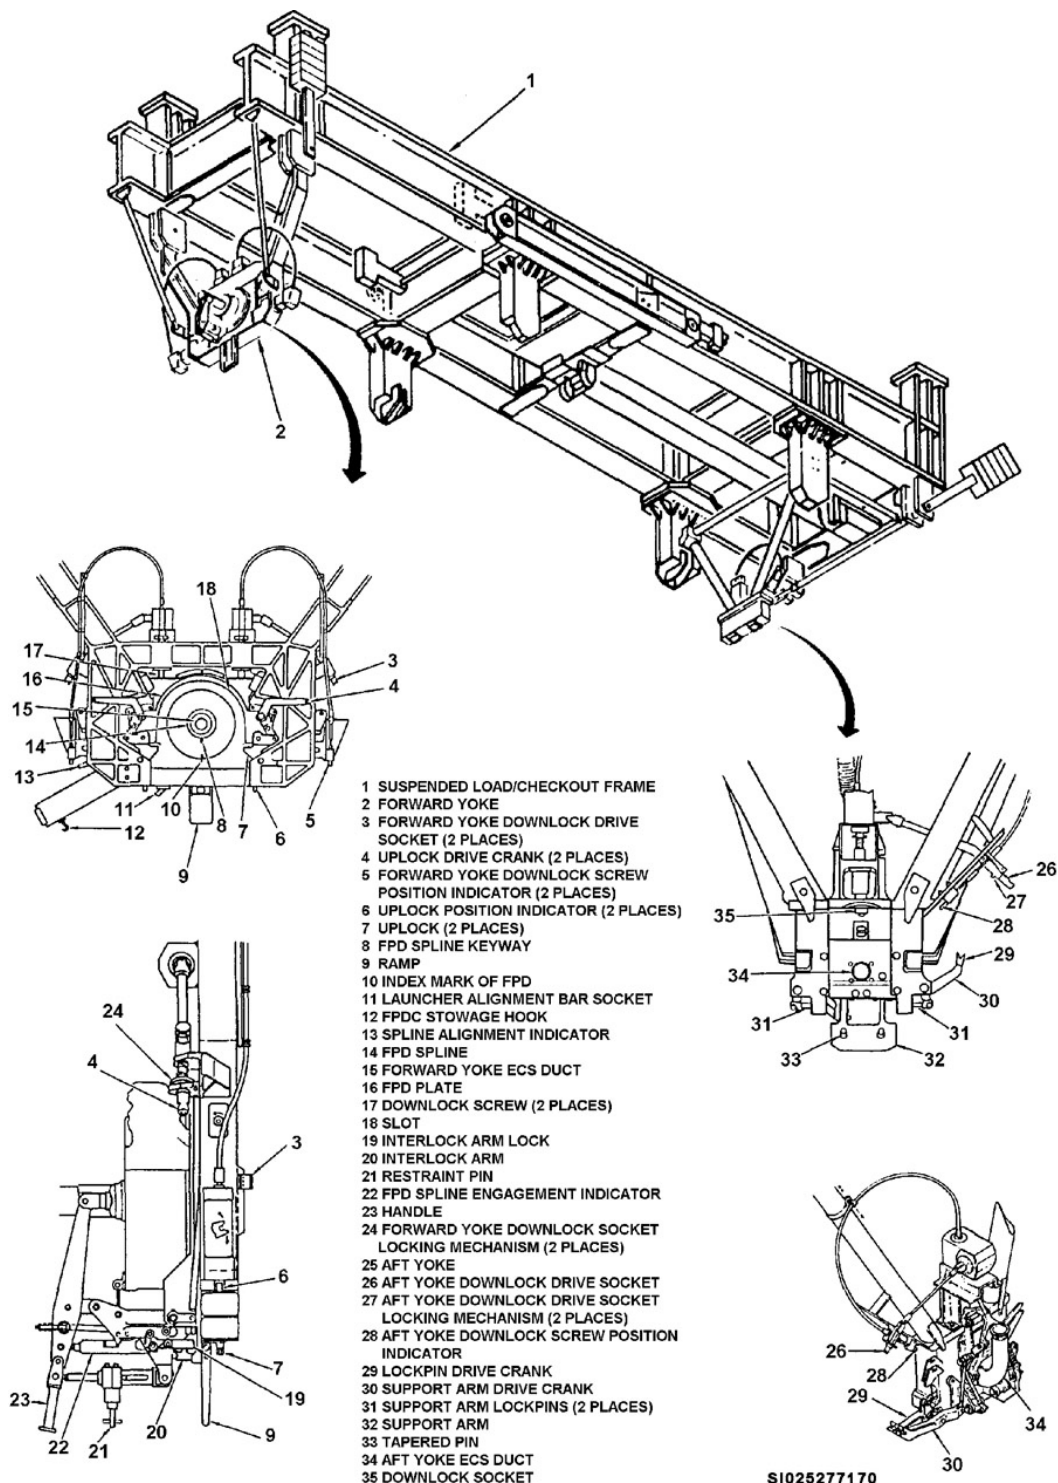

Figure 3-12. Forward and aft yoke assemblies.
NOTE: Refer to figure 3-12 as we discuss SLCF components to inspect and clean.
5. Raise the launcher until the forward end engages a slot in the forward yoke power drive collar. Continue to raise the launcher until the overtravel indicator is in the green band; do not let it enter the red band. Close the two forward yoke uplocks (fig. 3-12). The uplocks are located on each side of the forward yoke.
6. Disengage the spline lock pin while pulling forward on handle until the forward power drive spline indicator is in the SPLINE ENGAGED position (fig. 3-12). Release the retaining pin and move handle until spline is locked in SPLINE ENGAGED position.
8. Raise aft yoke support arm (fig. 3-12) by pulling down the support arm drive crank.